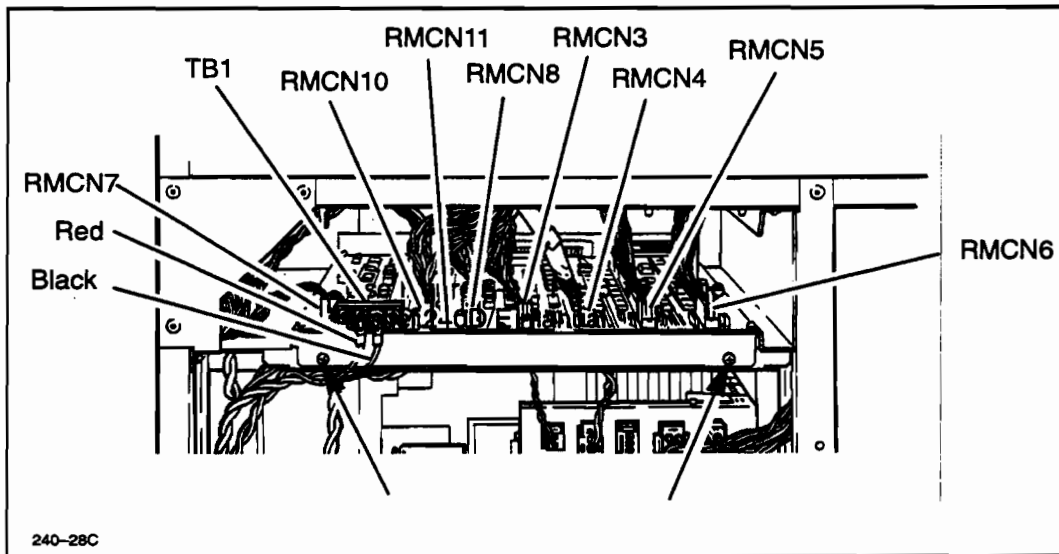

Figure 6-37. RMC PCA Removal
3. Remove the wires connected to TB1 (red from +5 V, black from SG). See Figure 6-37.
5. Using a #2 Phillips screwdriver, remove the two PCA mounting screws. See Figure 6-37.